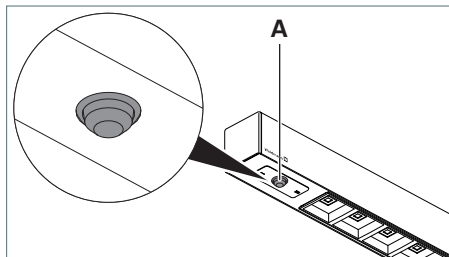

Fig. 4: PIR sensor, version R.
- Set the ball head **A** of the PIR sensor to the required direction, see Fig. 4.